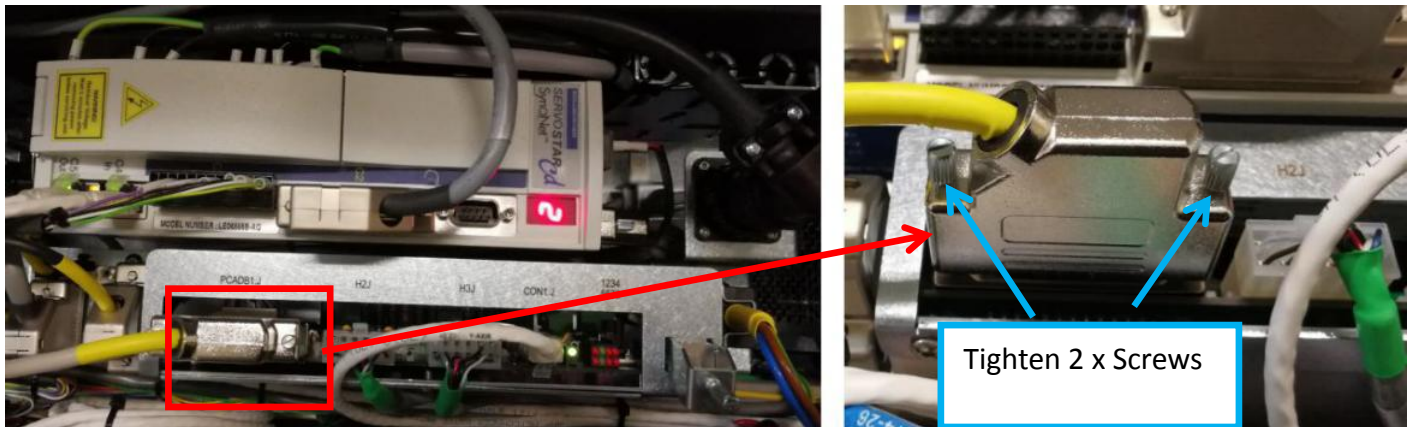

Figure 26
31. Connect Smema GPO/UPO Signal connector at PCAADB1J as Figure 26